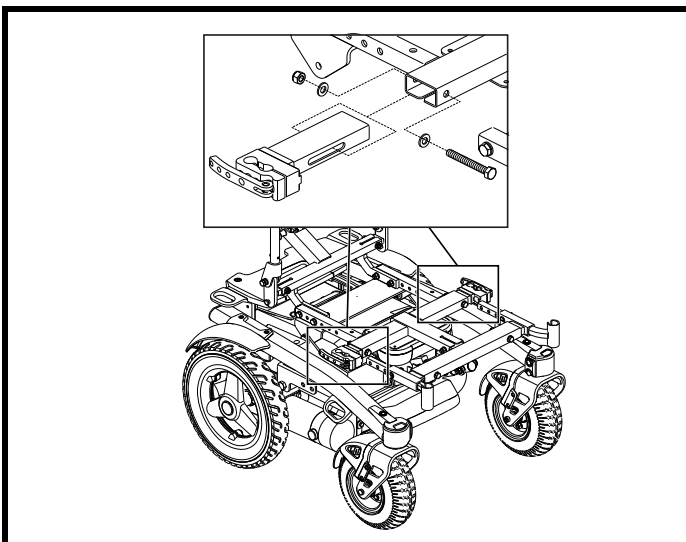

Figure 13. Seat Width Adjustment
2. Loosen the armrest receiver hardware. See figure 13.